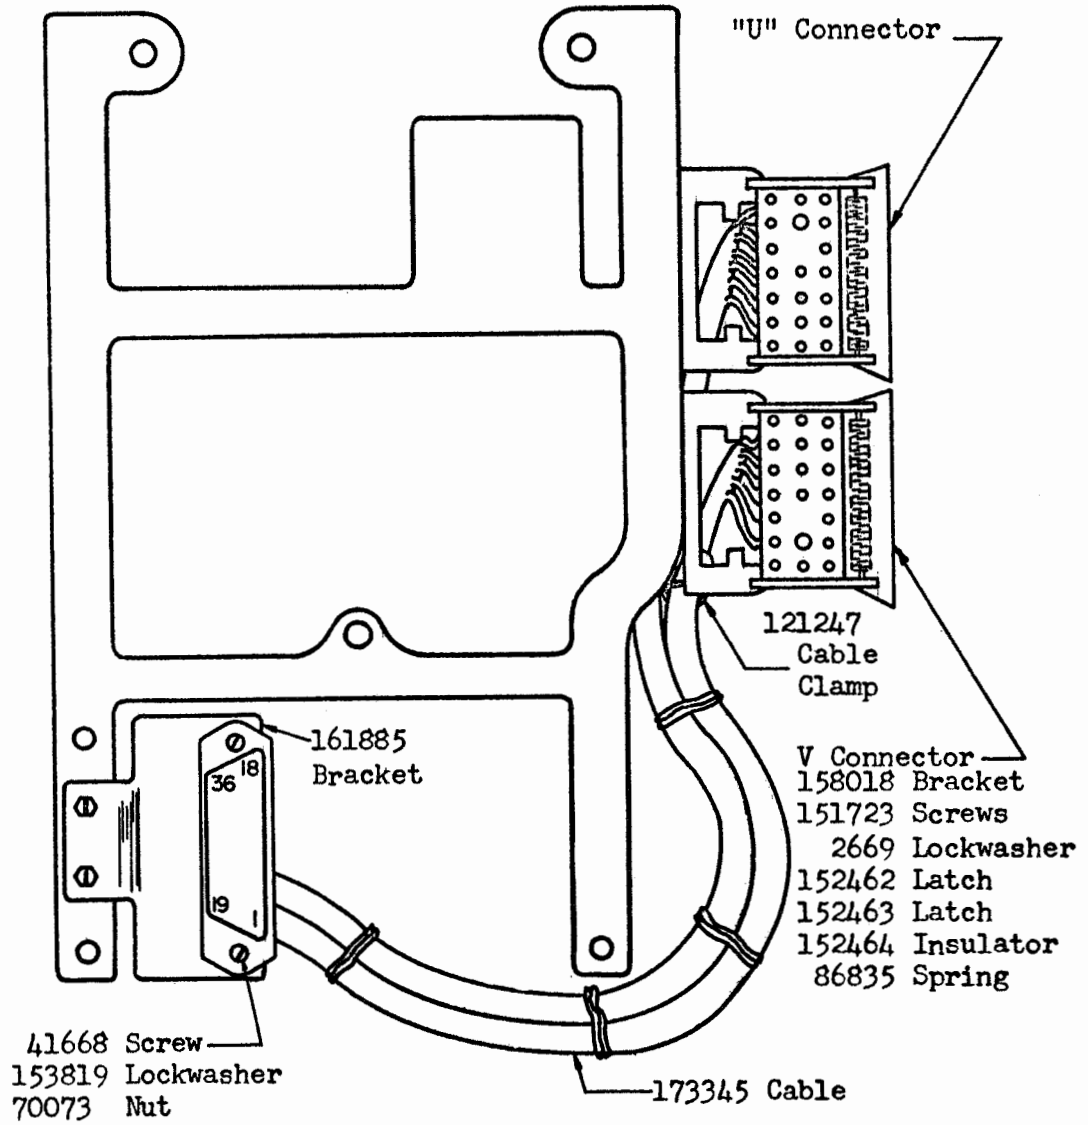

FIGURE 1.
2. INSTALLATION (See Figure 1)